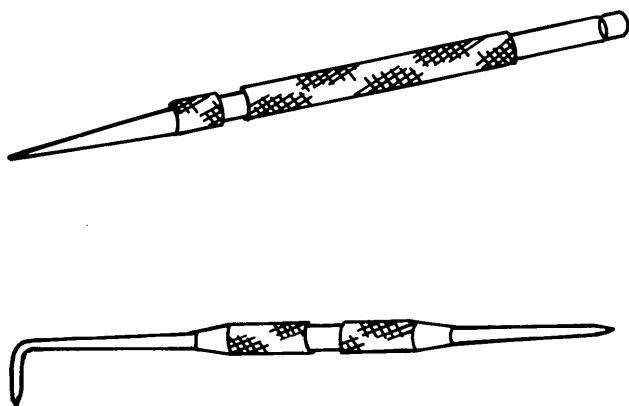

Figure 3-7. Mechanist's Scribers
(1) *Machinist's scribe.* The machinist's scribe is used to mark or score on steel, glass, aluminum, copper or similar surfaces. There are two basic types of machinist's scribes; single point pocket, and bent point/straight point, as shown in figure 3-7.